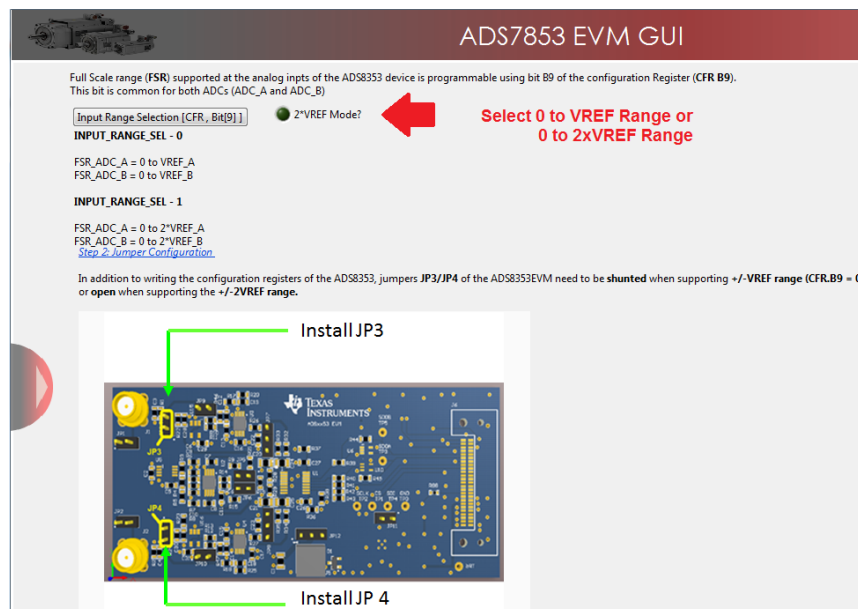

Figure 21. Selecting 0 to V_{ref} Range or 0 to $2 \times V_{ref}$ Range
- Scroll down in the *ADSxx53EVM Settings* page and find the *Input Range Selection [CFR, Bit[9]]* button to select the 0 to V_{ref} range mode or the 0 to $2 \times V_{ref}$ range mode. Install jumpers JP3 and JP4 when selecting the 0 to V_{ref} range. Uninstall jumpers JP3 and JP4 when selecting the 0 to $2 \times V_{ref}$ range. The GUI displays the appropriate JP3 and JP4 jumper settings, as shown in Figure 21.